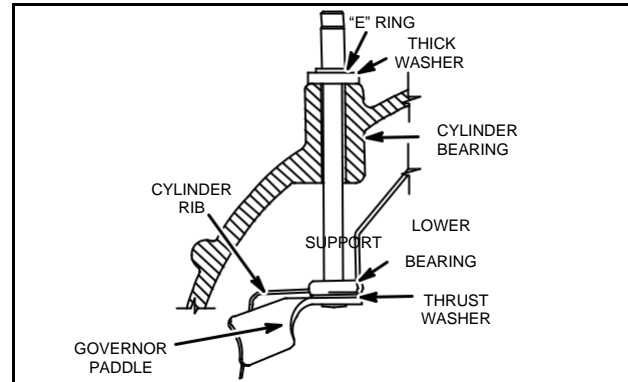

Fig. 22 – Governor Shaft Assembly (Early Style)
1. Assemble thrust washer to governor shaft and insert governor shaft through lower support and cylinder bearing, Fig. 22.
4. Push governor paddle against cylinder rib, Fig. 22.